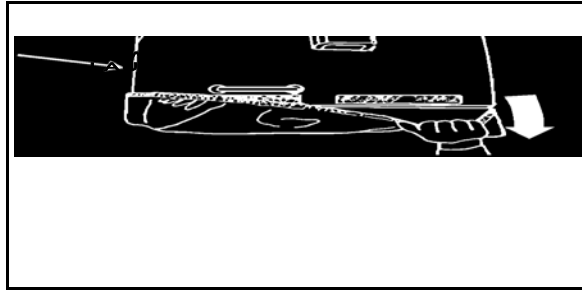

Figure 1. Dust cover.
2. Remove the TOW launcher dust cover (Figure 1).